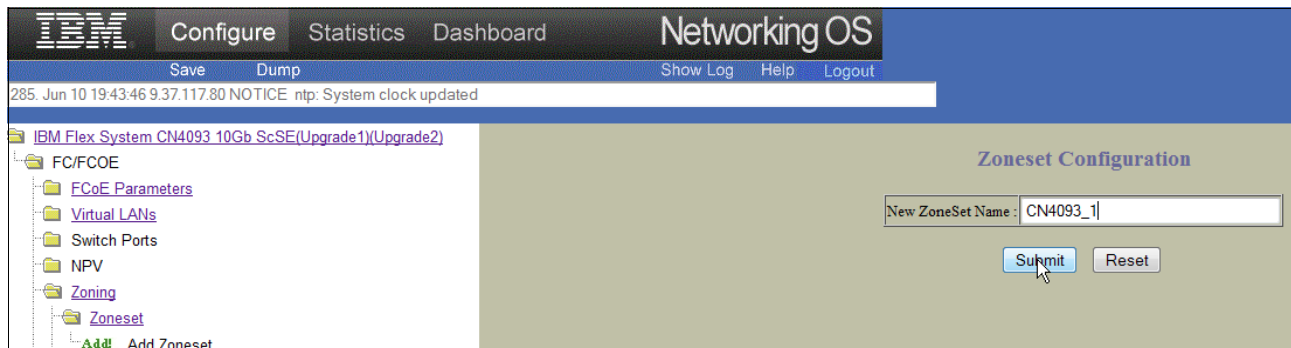

Figure 8-15 Zoneset name
14. Type the name of the new Zoneset (in our example, CN4093\_1) and click **Submit** as shown in Figure 8-15.